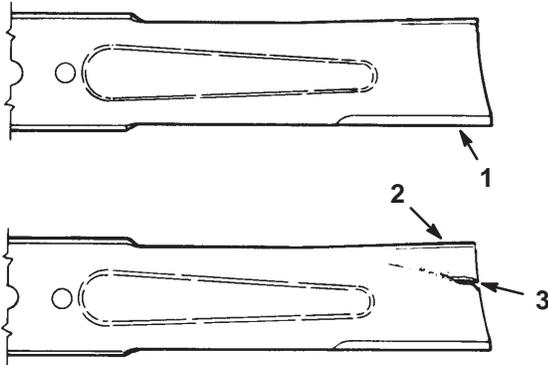

Figure 19
2. Inspect the cutting edges (Fig. 19). If the edges are not sharp or have nicks, remove the blade(s) and sharpen them; refer to Sharpening the Blade(s), page 17.
3. Inspect the blade(s), especially the curved area (Fig. 19). If you notice any damage, wear, or a slot forming in this area (Fig. 19), immediately install a new blade.